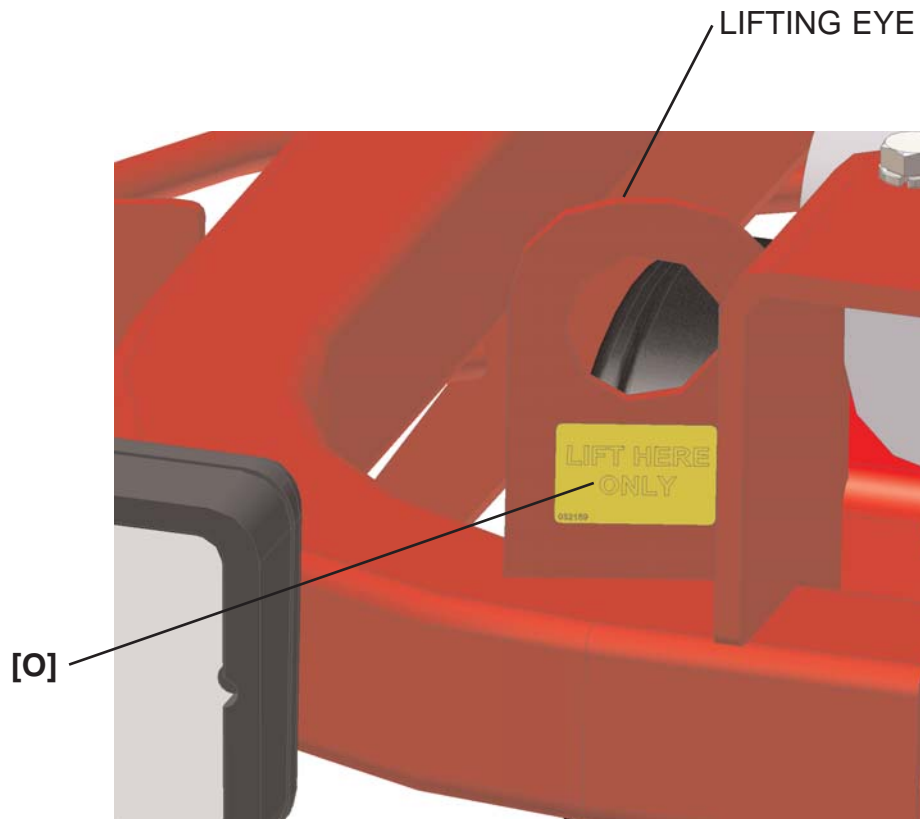

FIGURE 3.7.7
*The dolly jack lifting system is designed for short moves and to aid in servicing the trowel. It is not a substitute for a towing system or trailer. An optional lifting bridle **[N]** is available and recommended for lifting the trowel. Attach the bridle to each of the four lifting eyes **[O]** on the trowel. Refer to Figure 3.7.7.*